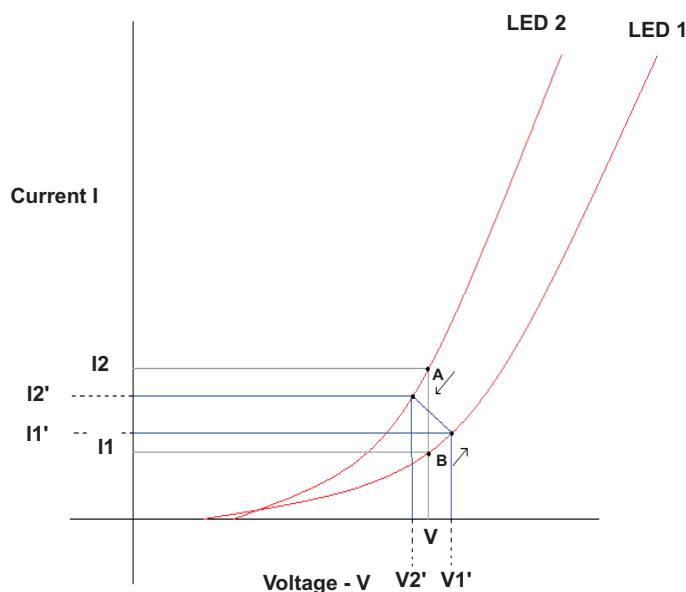

Figure 3. I-V Curves of Two Different LEDs
Figure 3 illustrates why the currents are different. Because the voltage (V) across both LEDs is the same, the 25 mA of current demanded by the current sink splits per each LED's I-V curve, as highlighted by segment AB. If the variation in forward current needs to be reduced, the engineer can add a ballast resistor in series with each LED.